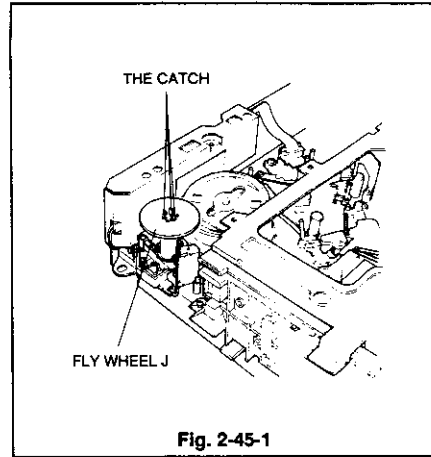
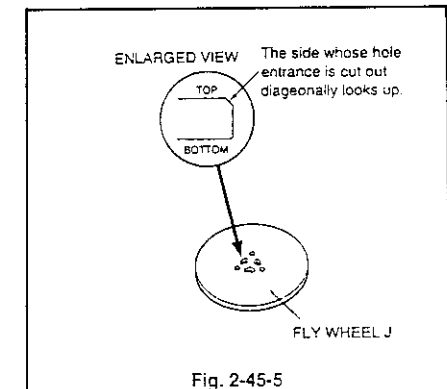

Fig. 2-45-1
Fig. 2-45-5
- ④ Make sure that the IMPEDANCE ROLLER SPRING-J is hooked at the catch ③ of the HOLDER TG shown in the Fig. 2-45-5.
- ⑤ Install the FLY WHEEL J on the ASSY IMPEDANCE ROLLER so that the side whose hole entrance is cut out diagonally looks up.
- ⑥ Make sure that three catches are tightly hooked on the FLY WHEEL. If they are not, hook them tightly with the tweezers. [Fig. 2-45-1]